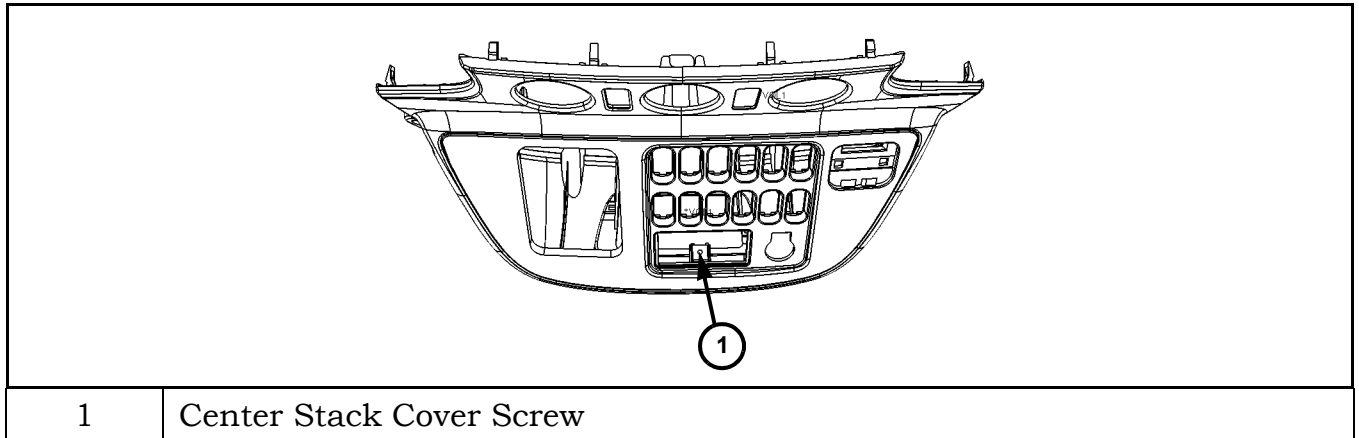

Figure 4 Center Stack Cover Screw Location
4. Remove center stack cover screw (Figure 4).